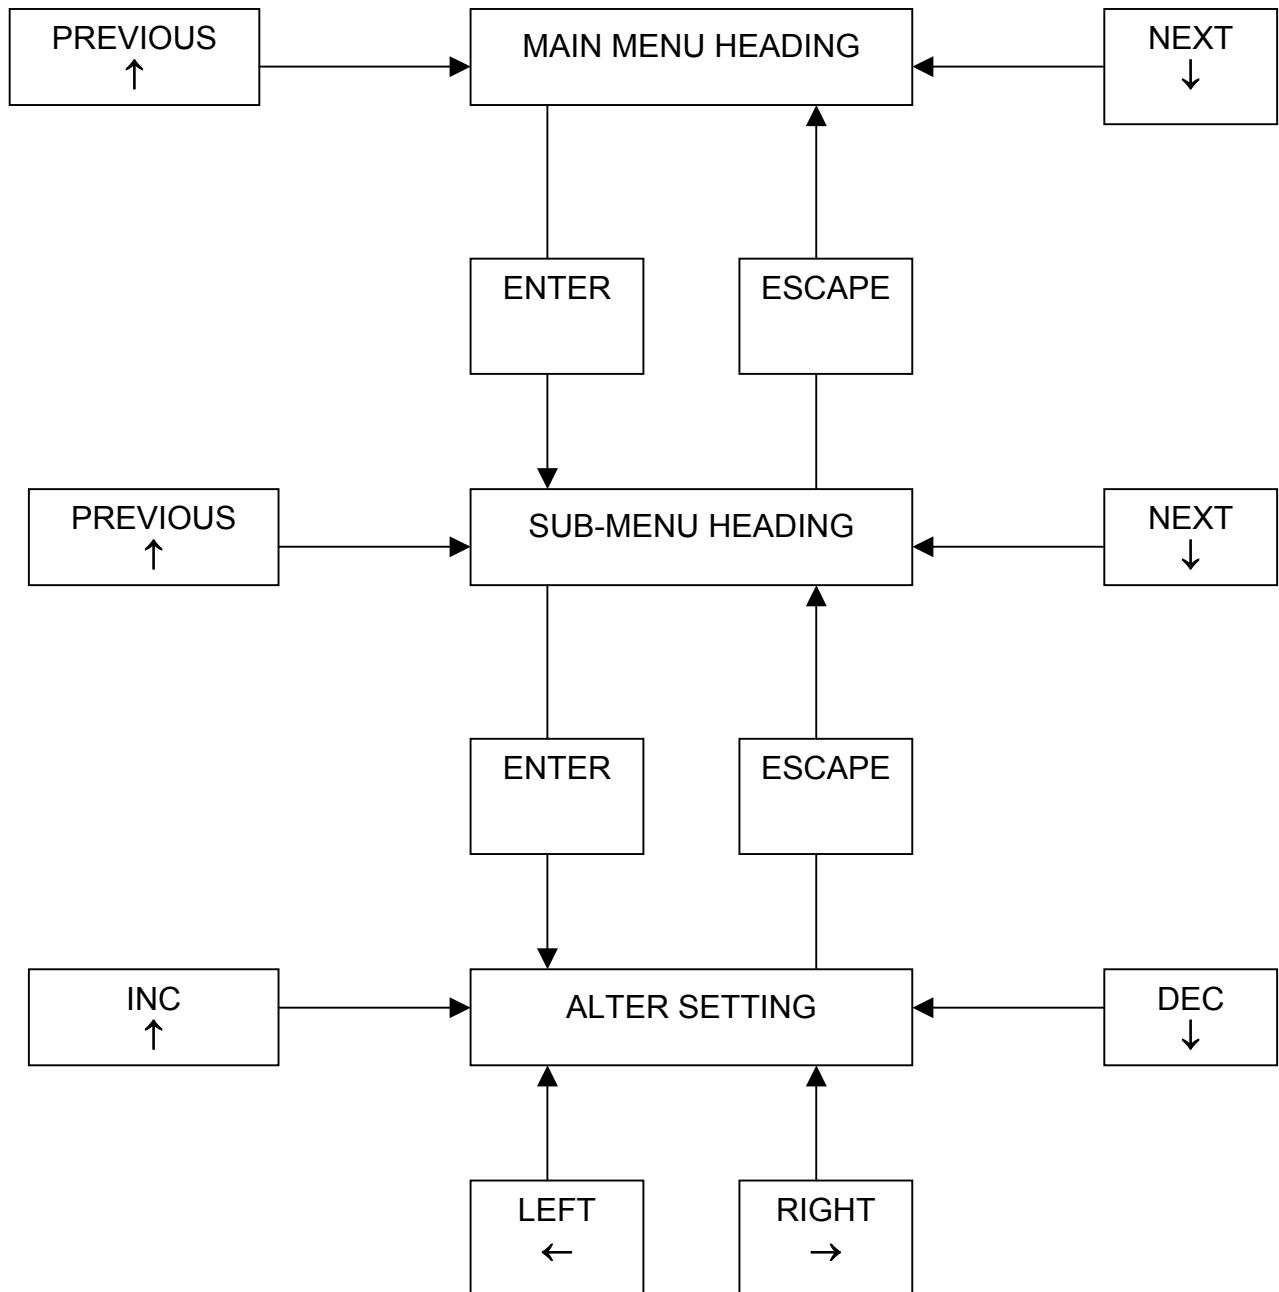

FIG 3.1 ACCESSING AN OPTION SETTING – FLOW DIAGRAM
7. The method of navigating the menu structure is consistent throughout the program. The ↑ and ↓ keys are used to index through the headings in a particular level or increment / decrement a value. Pressing ENTER will select a submenu or confirm a change whilst ESCAPE will reject a change or return to the previous menu level. The sequence for accessing a menu option, and then accessing a submenu within that option and finally selecting and changing a parameters value, is shown diagrammatically in Fig 3.1.